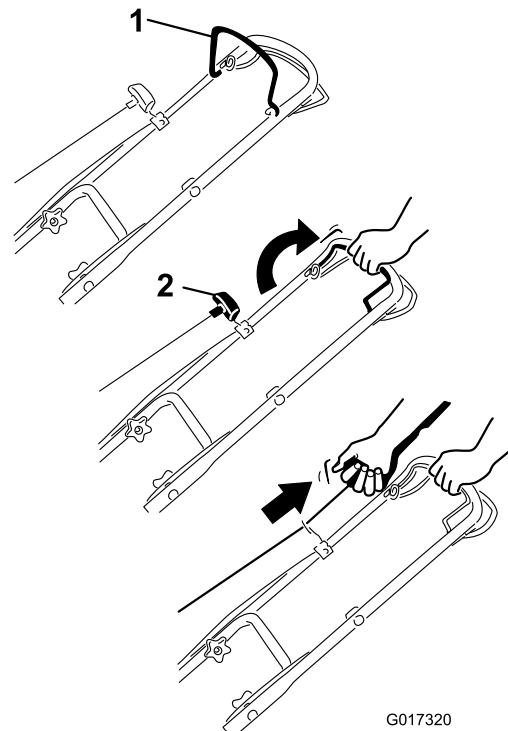

Figure 11
1. Hold the blade control bar against the handle (Figure 11).
2. Pull the recoil start handle lightly until you feel resistance, then pull it sharply. Allow the rope to return to the handle slowly (Figure 11).